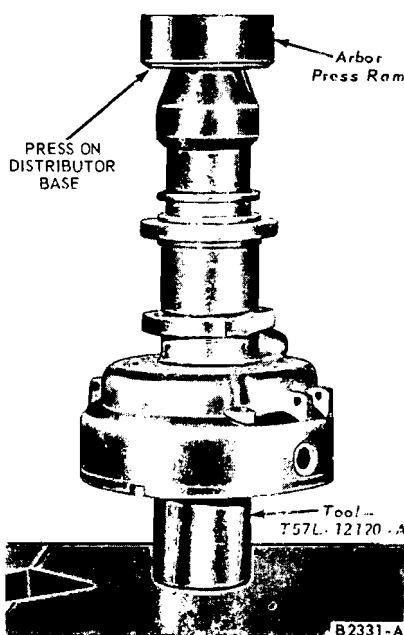

FIG. 7—Bushing Installation
1. Oil the bushing and position it in the body with the lock ring end up. Install the bushing (Fig. 7). Press the tool until the bushing bottoms firmly against the distributor body.